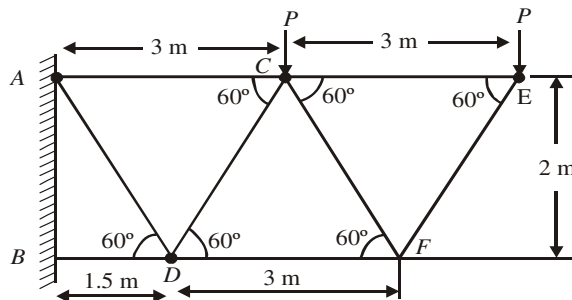

Fig 13.60
Q. 20: A cantilever truss is loaded and supported as shown in fig 13.60. Find the value of *P*, which would produce an axial force of magnitude 3KN in the member AC.